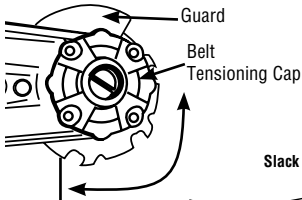
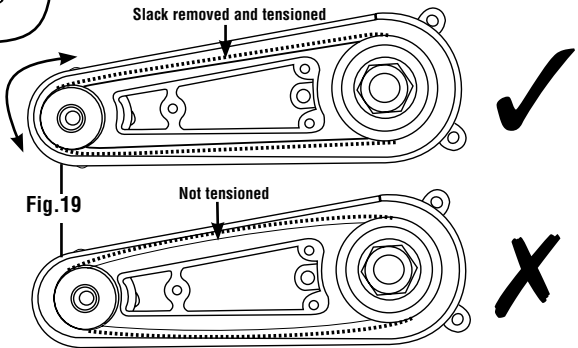

Fig.18
Fig.19
- Remove the 4 belt tensioning cap screws (shown in fig. 18).
- Rotate tensioning cap Fig 18 to remove slack from the belt fig 19. The blade can be seen moving slightly when rotating the Belt tensioning cap.